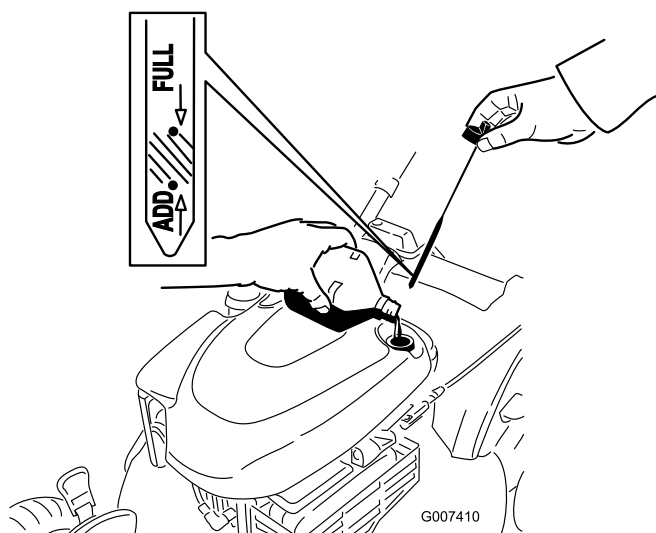

Figure 36
4. **Slowly** pour oil into the oil fill tube until the oil level reaches the **Full** line on the dipstick (Figure 36). **Do not overfill.** (Max. fill: 20 oz., type: SAE 30 detergent oil with an API service classification of SF, SG, SH, SJ, SL, or higher.)